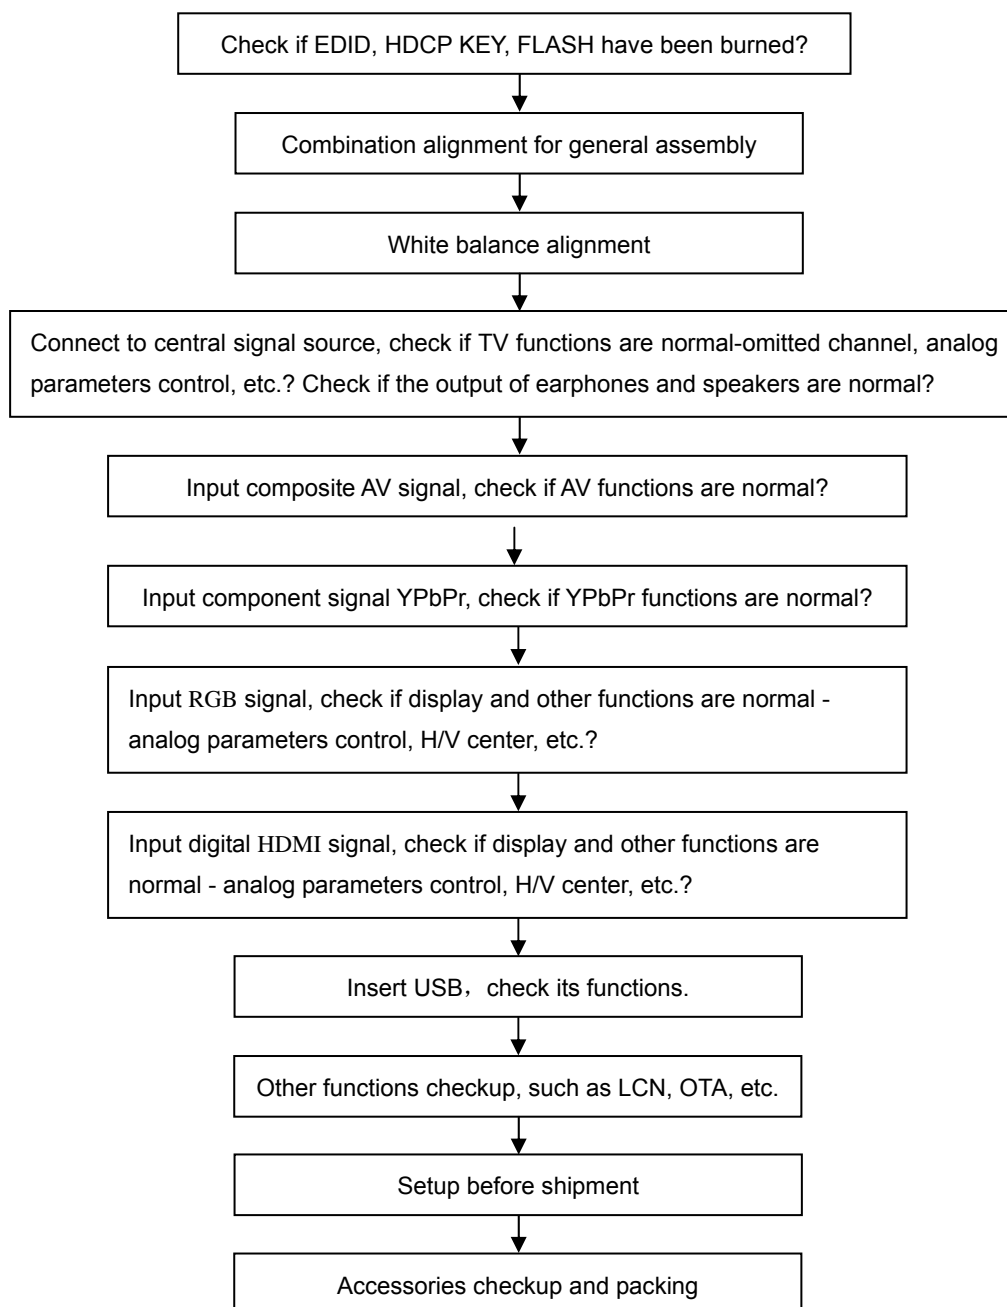

Fig. 1 Alignment flow chart
3.2 Alignment flow chart shown as Fig. 1